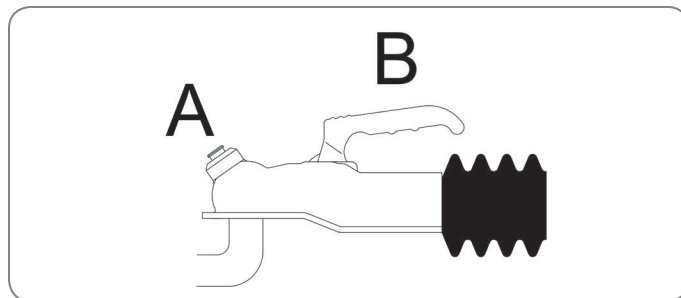

Figure 1.03
1. Lower the coupling over the tow bar using the jockey wheel crank whilst pulling up the handle and then release the handle (figure 1.03; position B) when the coupling is resting on the ball. This should now slide back into the starting position on its own.
The tow bar ball is correctly coupled if the green edge of the safety indicator (figure 1.03; A) is visible.